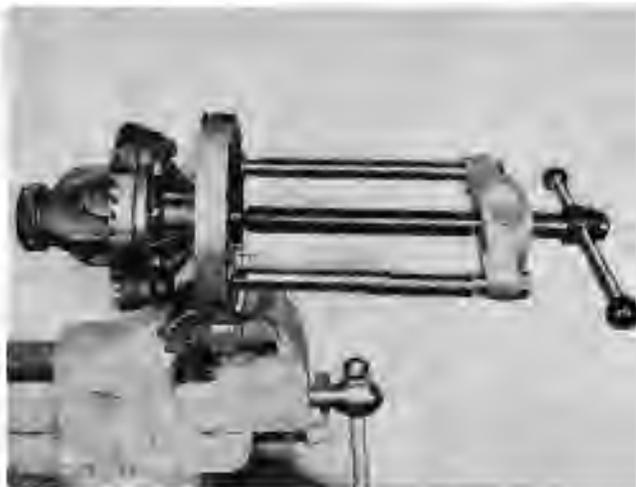

Fig. 31 Removal of the differential bearing utilizing the Churchill Tool No. S103 and S422 frame.
- (xxi) Having decided the thickness of shims required behind each differential bearing, these bearings are extracted with the special tool shown in Fig. 31. The